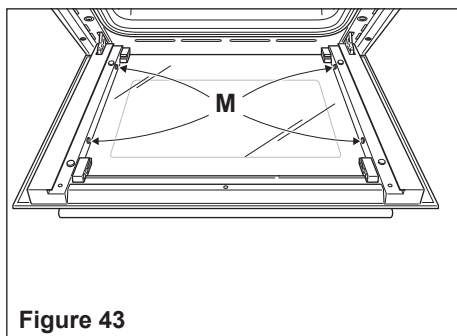

Figure 43
- Check that the four rubber pads are in place ("M" in fig. 43).